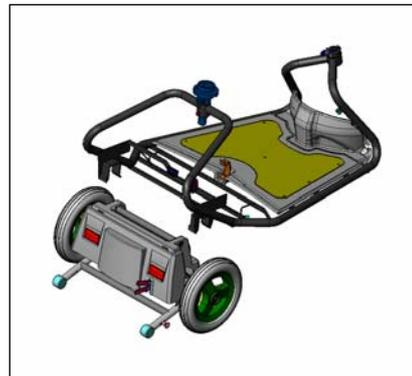

Figure 23
- d. Pull up the frame from the square bracket of the power unit and lay it on the side (**See Figure 23**).